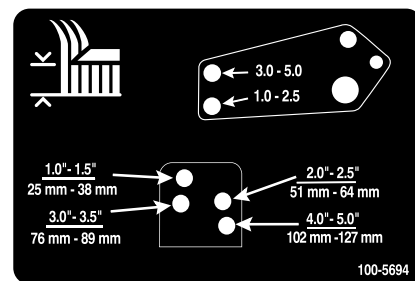

Figure 25
- Align the damper-link holes with the selected height-of-cut bracket holes in the mower-deck frame, insert the clevis pins, and install the hairpin cotters (Figure 25).